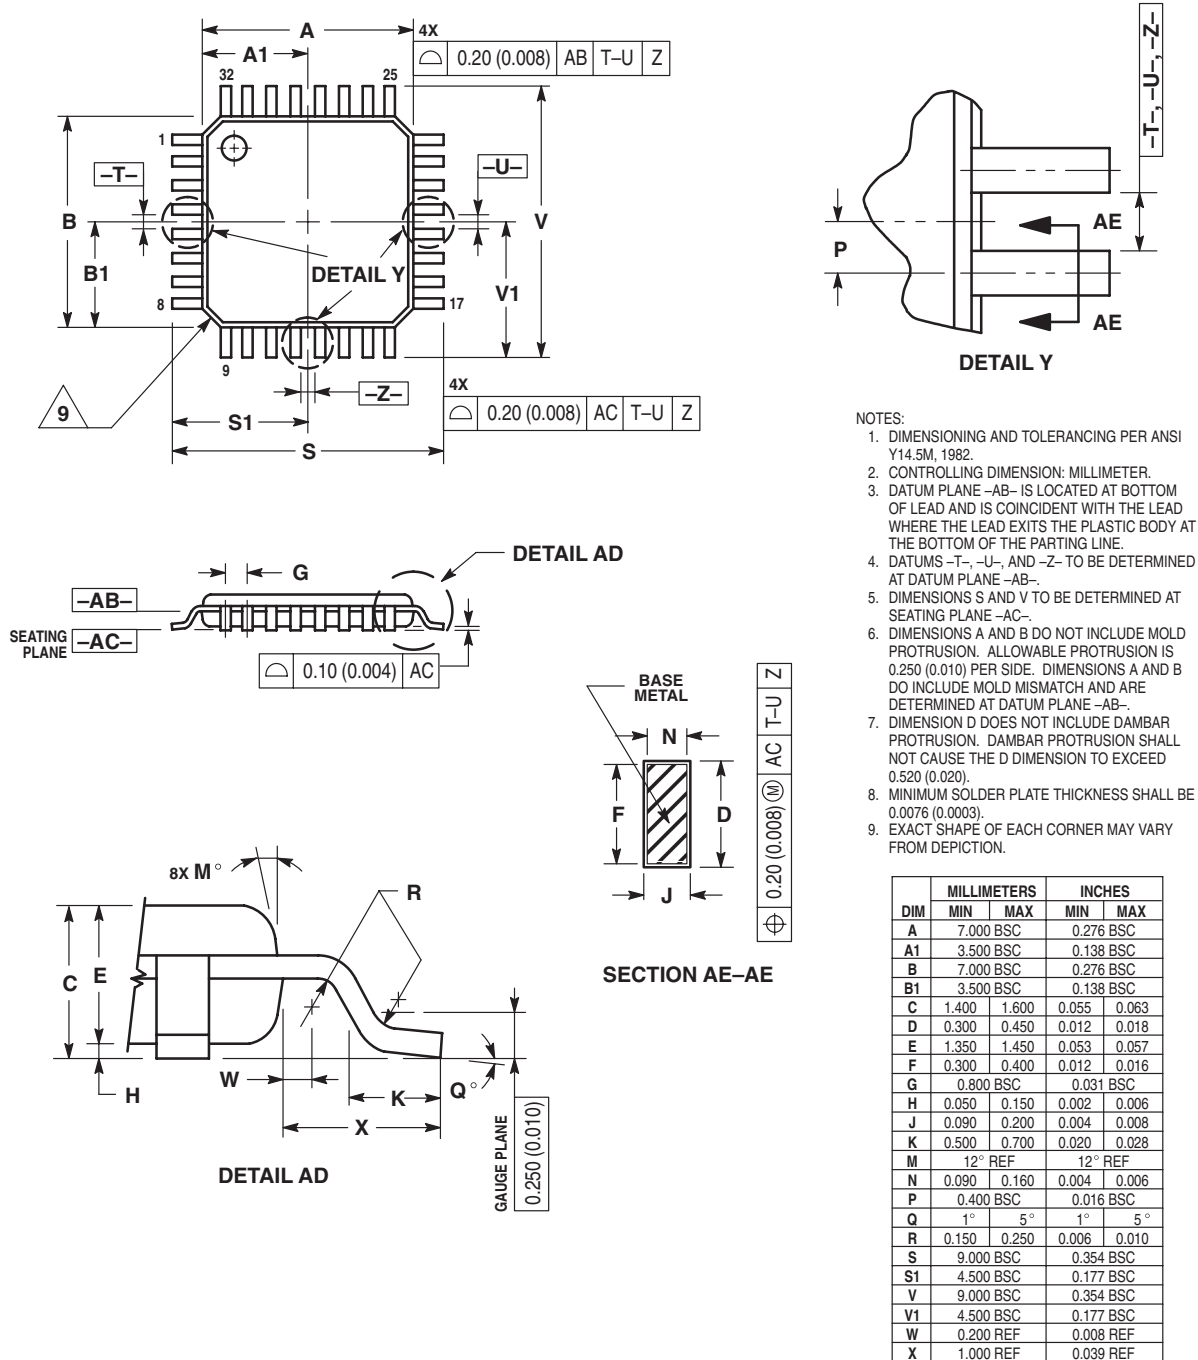

Figure 22. Plastic 32-Pin QFP (Case 873A)
- Plastic 32-pin QFP, Figure 22